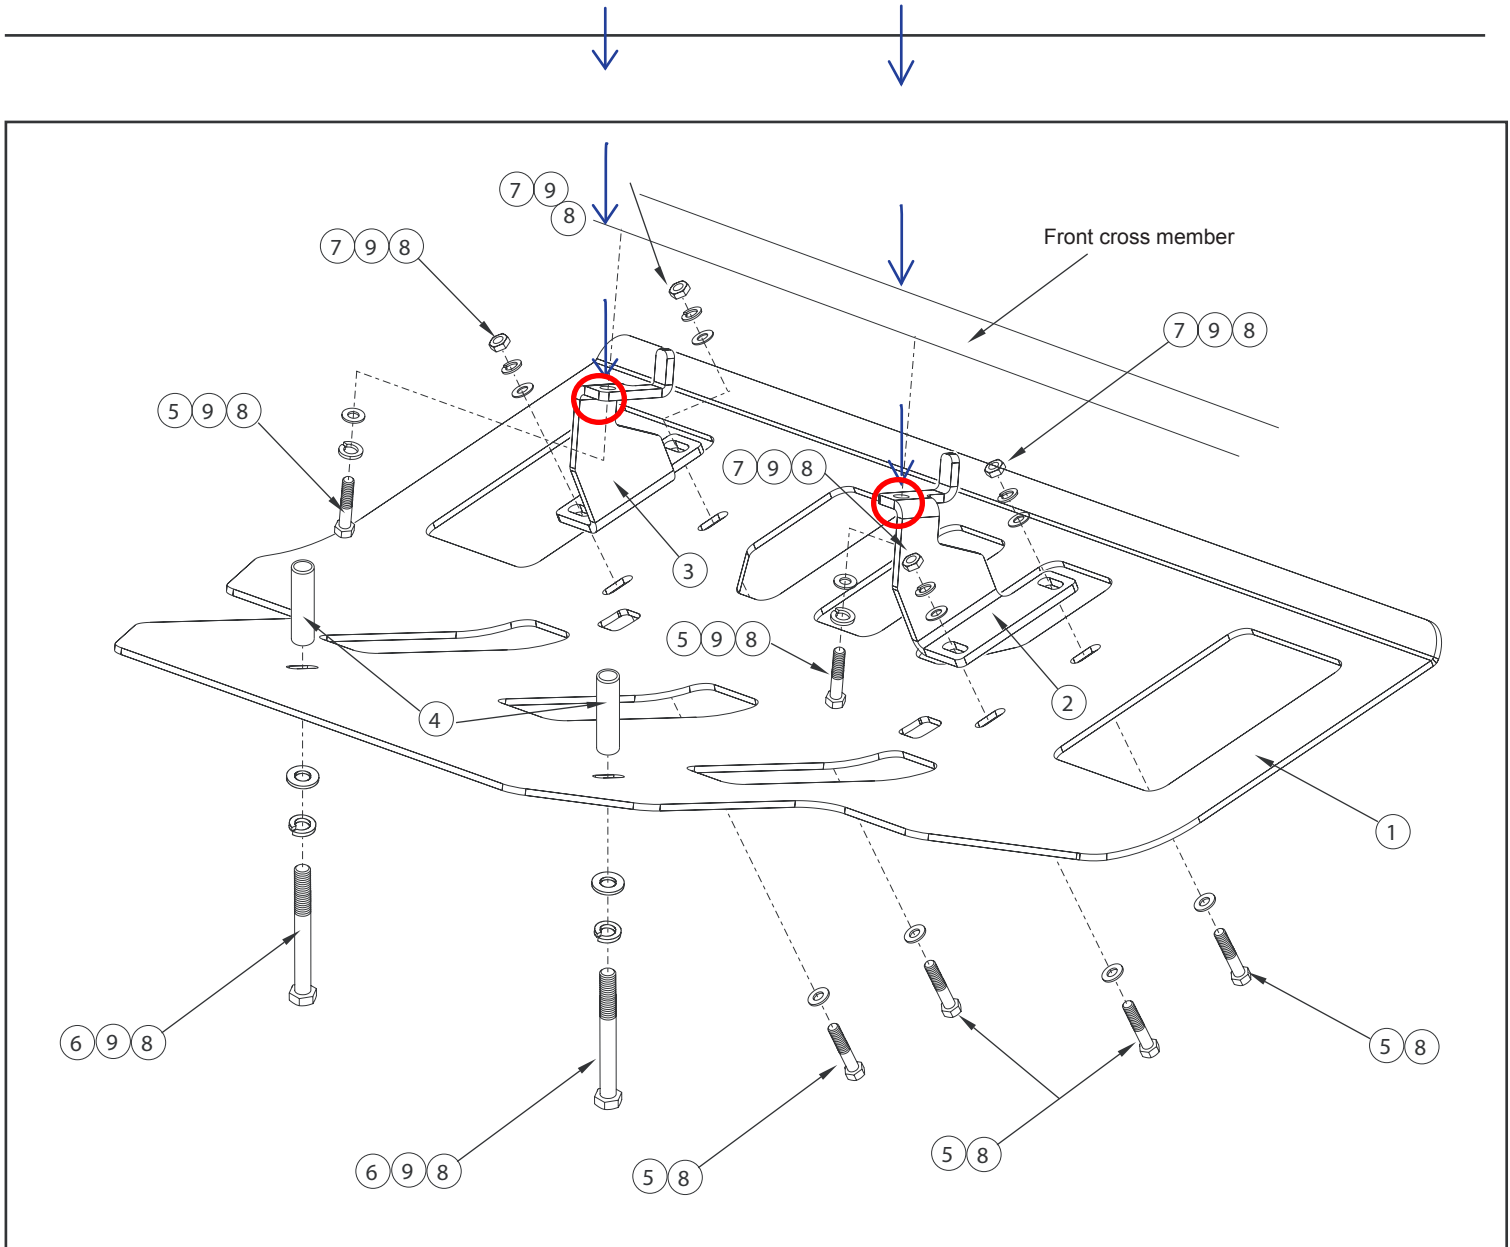

FIGURE 1
- STEP 2. Determine passenger and driver brackets. Attach mount bracket to the front cross member of the vehicle using a M8-1.25 x 30mm hex head bolt, 3/8" flat washer, and 3/8" lock washer as shown. Leave loose. Repeat for opposite side. SEE FIGURE 1. **Note: Use 3/8" washers on either bracket to level the skid plate as necessary.**